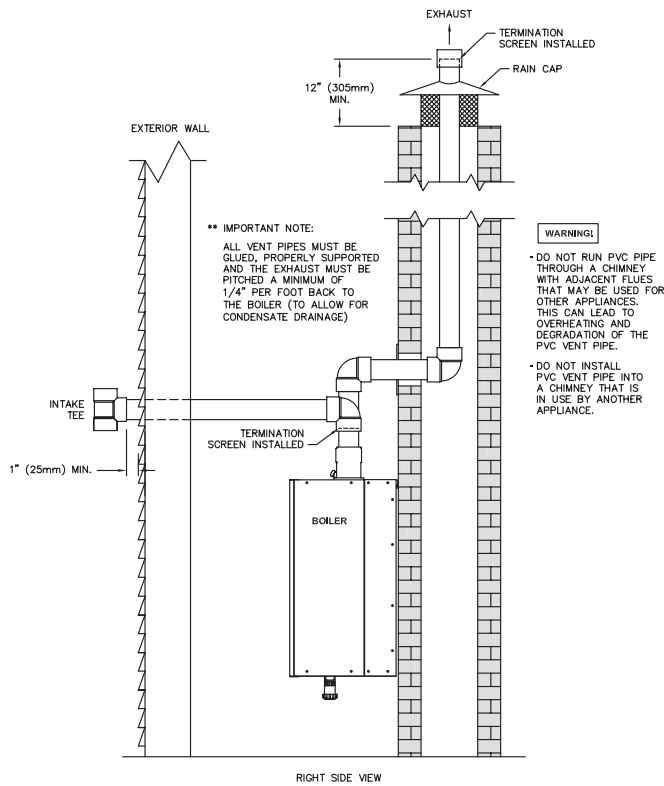

Figure 3.12: Venting Through a Chimney Using Sidewall Outside Air
- Figure 3.12 shows this option using inlet air from a sidewall position.